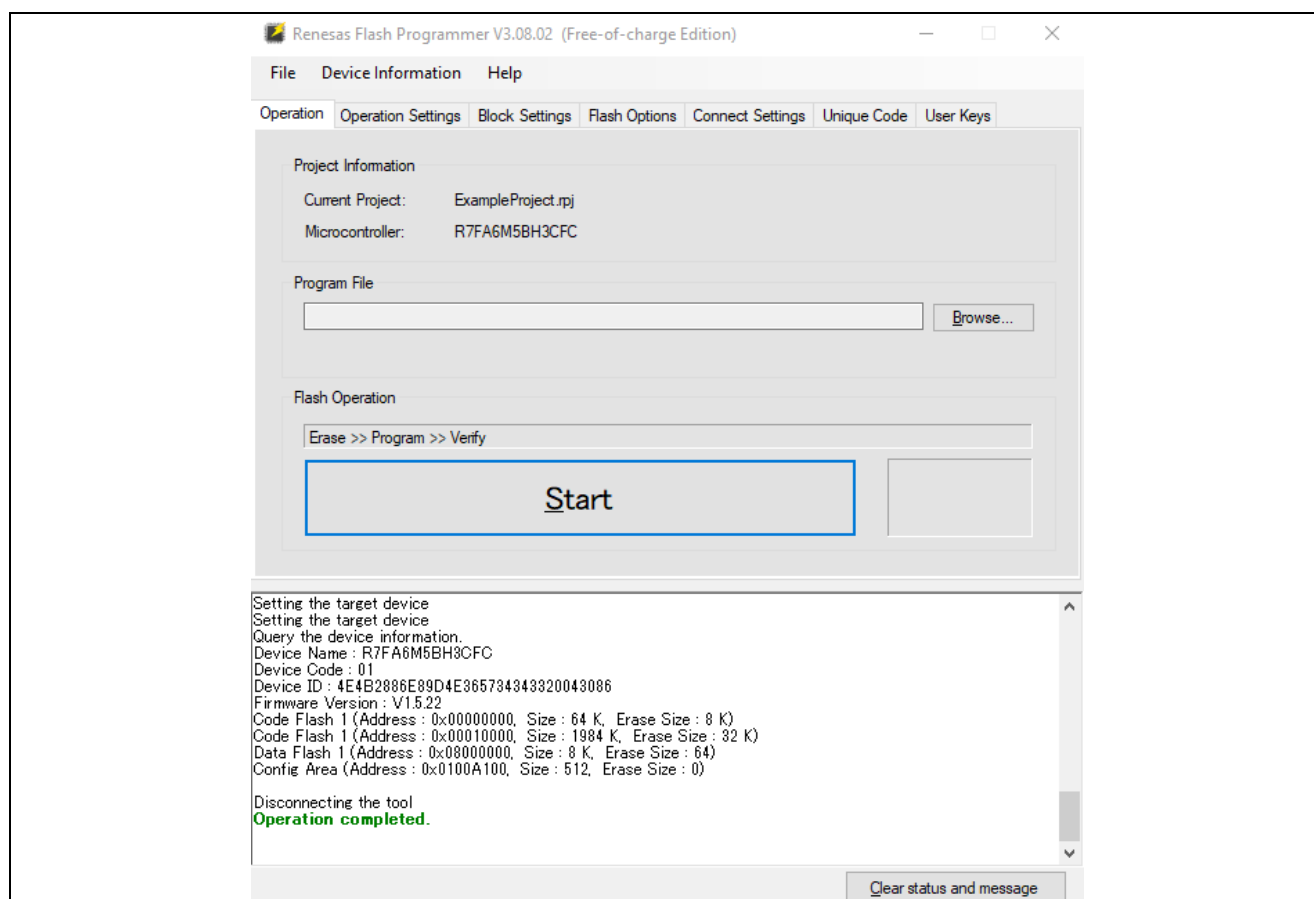

Figure 3. The Main Window of Renesas Flash Programmer After Creating a New Project
5. Verify the message **Operation Complete** is printed in the main window after clicking Connect. Under Program File, click Browse to choose the program file that will be flashed onto the board (Figure 3). Using the file explorer window, navigate to the example project's **ra6m5.srec** file and click Open.